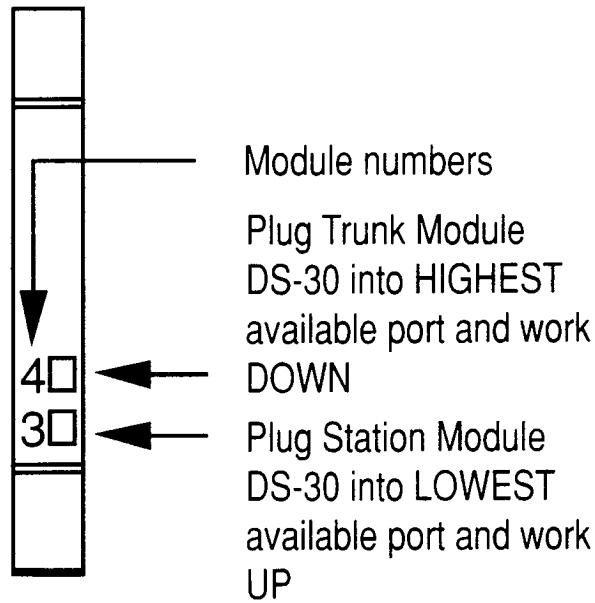

Figure 2.8 - Module Numbering Scheme for a Two-Port Expansion Cartridge
3. Enter the module number. **Modules 1 and 2 are inside the KSU.** Figures 2.8 and 2.9 show the numbering scheme for Trunk or Station Modules.